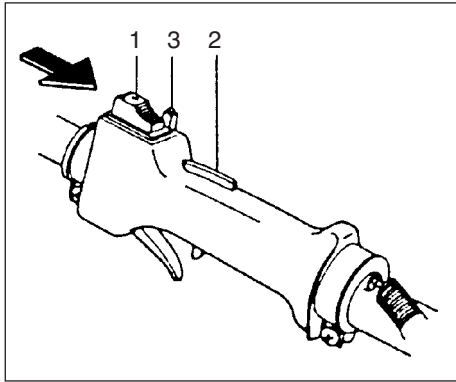

Fig. 2-2
Starting (Fig. 2-2, 3)
1. Set ignition switch (1) to ON position. (Fig. 2-2)